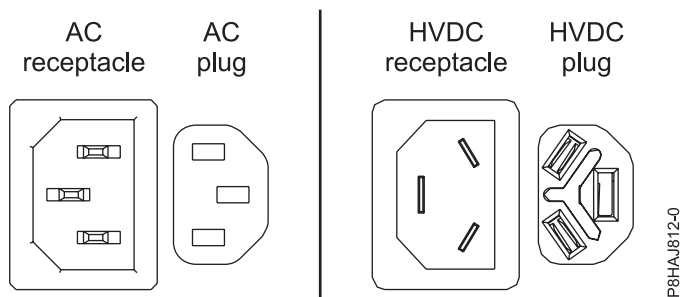
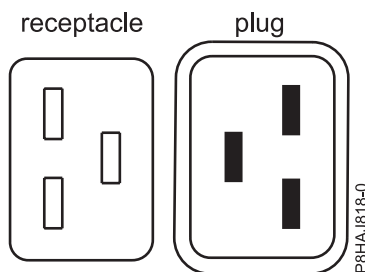
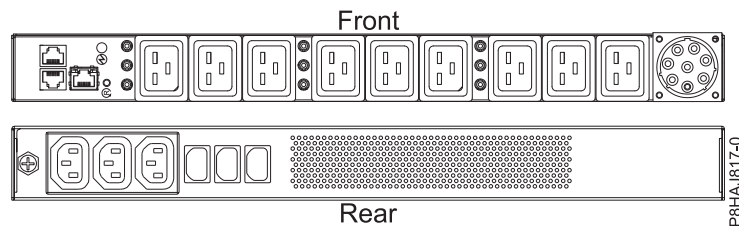

Figure 49. AC and HVDC connectors
Figure 50. Connectors for the 8408-44E system
Figure 51. PDU for the 8408-44E system
- The power cord is fastened to the system using the hook-and-loop fastener (A). If you are placing the system in a service position after disconnecting the power cords, then ensure that you unstrap the fastener.
Figure 49 shows the supported alternate current (AC) and high voltage direct current (HVDC) connectors. Figure 50 and Figure 51 show the supported connectors and power distribution unit (PDU) for 8408-44E.